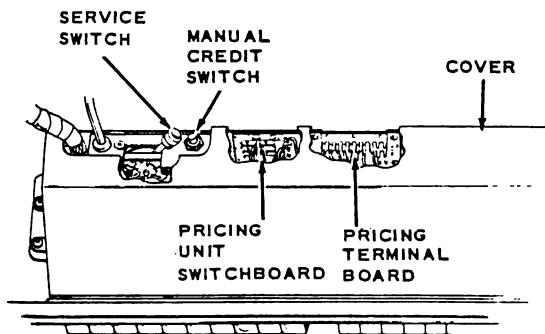

Figure 3.
Mounted behind the electrical selector panel on the tomat electrical selector are the service and manual credit switches plus the pricing unit switchboard and pricing terminal board. (See Figure 3.) All four items are located at the left end. The first two are accessible
when the cabinet lid is raised. The remaining two can be reached only when the cover, as shown in Figure 3, has been removed from the electrical selector. On the right end of the electrical selector, the selection counter is mounted. (See Figure 9.)
A three-position service switch is located as shown in Figure 3. When the switch lever is moved to the left, against the spring return, and permitted to return to center position, it will cause the mechanism to scan past and by-pass selections set up on the Tormat Memory Unit and come to rest at the right hand end of the base.
- B. Connecting the Pricing Terminal Board taper tabs all on Singles, Figure 3.